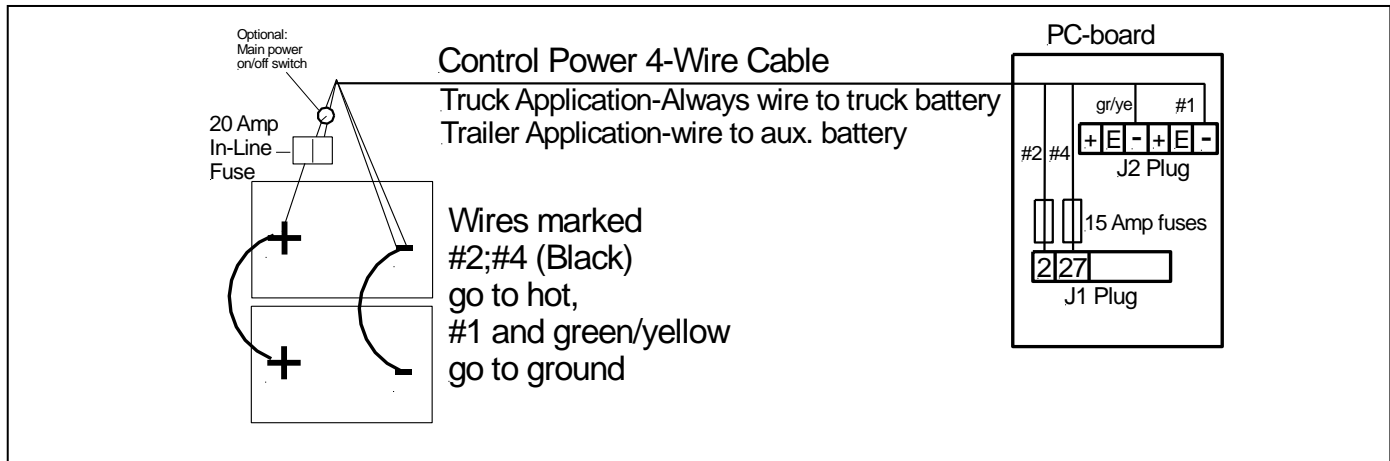
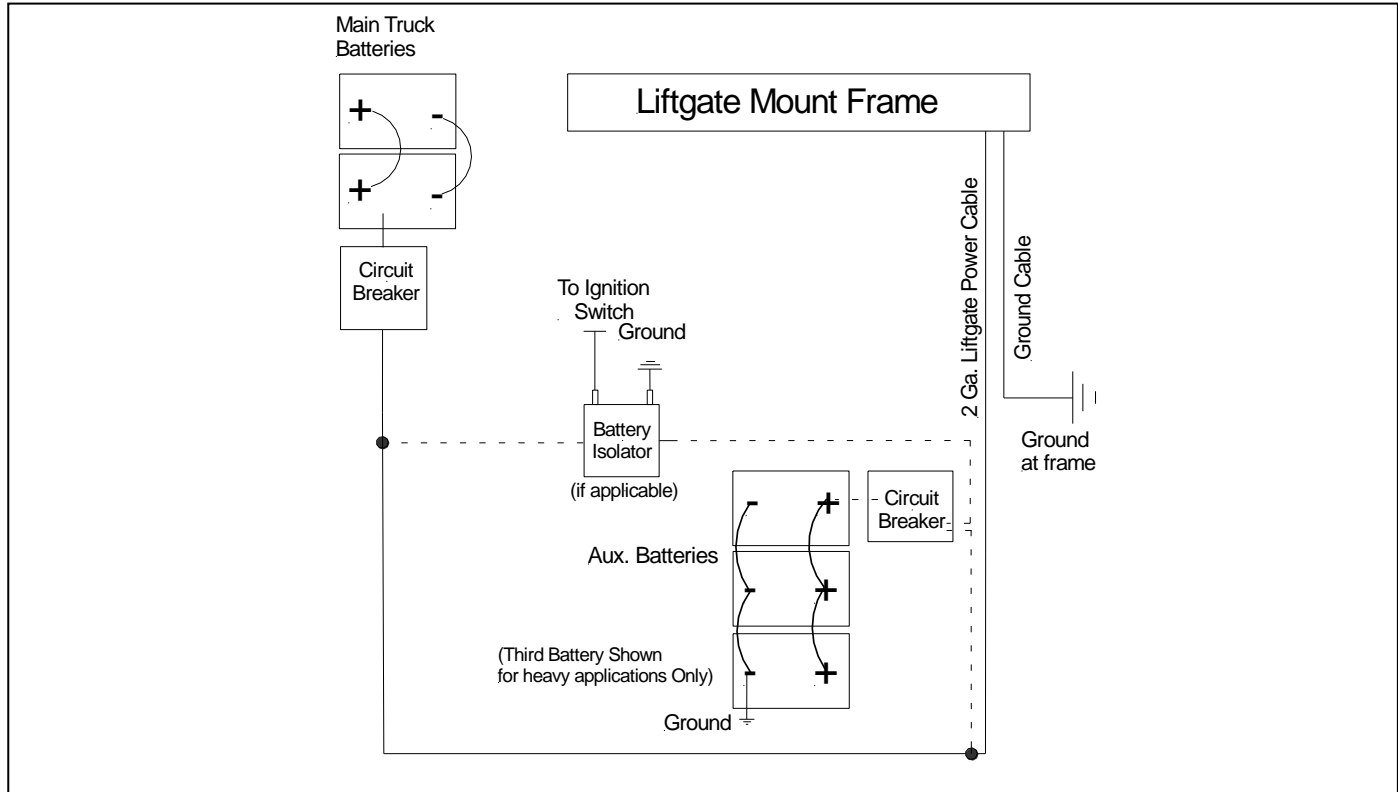

Figure 13 Board control power wiring connection
Figure 14 Main Power supply setup
12 Volt Control power needs to be connected to operate the “Down Function” and release pressure at the lift cylinders to get lift arm in correct location (see Figure 13 and Figure 14)
- Rubber bumper should make contact with Alum Tip section 1-1/2" below steel sliding tube (see Figure 14)